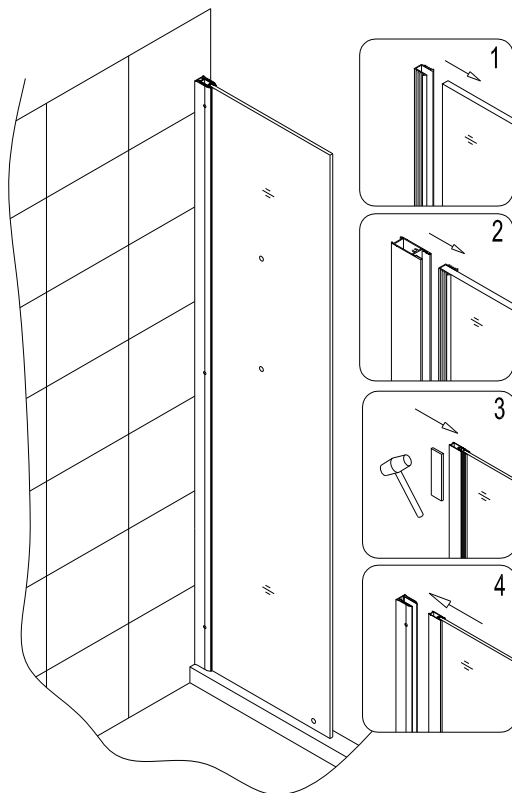

Fig 15
15. Locate the **Stationary glass (25)**. Small hole on the short side of the stationary glass should be on the bottom and away from wall. Place a **U-shape seal gasket (33)** on the long (vertical) side of the glass panel. Push the **Stationary glass (25)** into **Glass profile (5)** groove using a hammer. (**NOTE: If the stationary Glass and the glass profile have been assembled, you can skip this step.**) See Fig 15 for details.